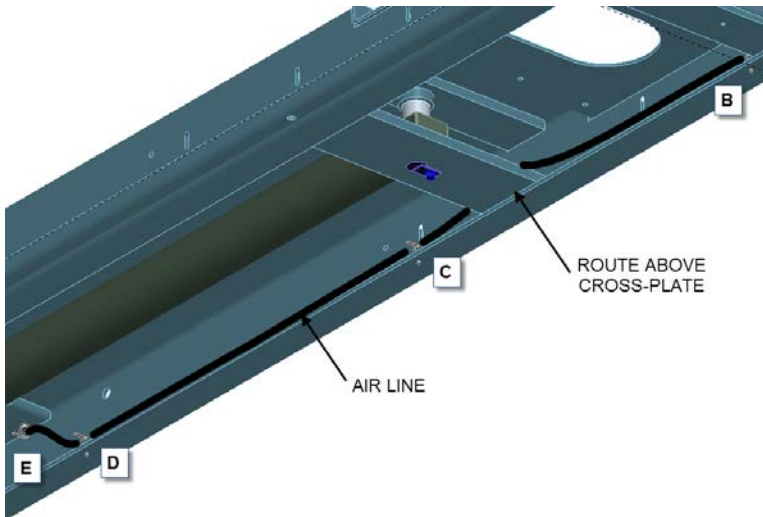

Figure 34
- Cut a 20 ft long piece of 1/4" dia. polytube from same coil. Connect one end to the T-fitting mentioned above (on the front left cross-member). Run the other end above and along the left lower lip of the left side deck, thru cable ties: "B", "C", "D", then up to cable tie "E" on rear alignment pan (**Fig.34**).